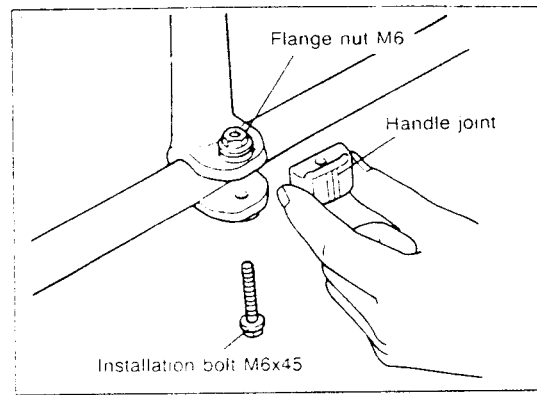

Fig. 1
Mounting the handle (Fig. 1)
2. Install the handle joint on the handle as shown in Fig. 1.